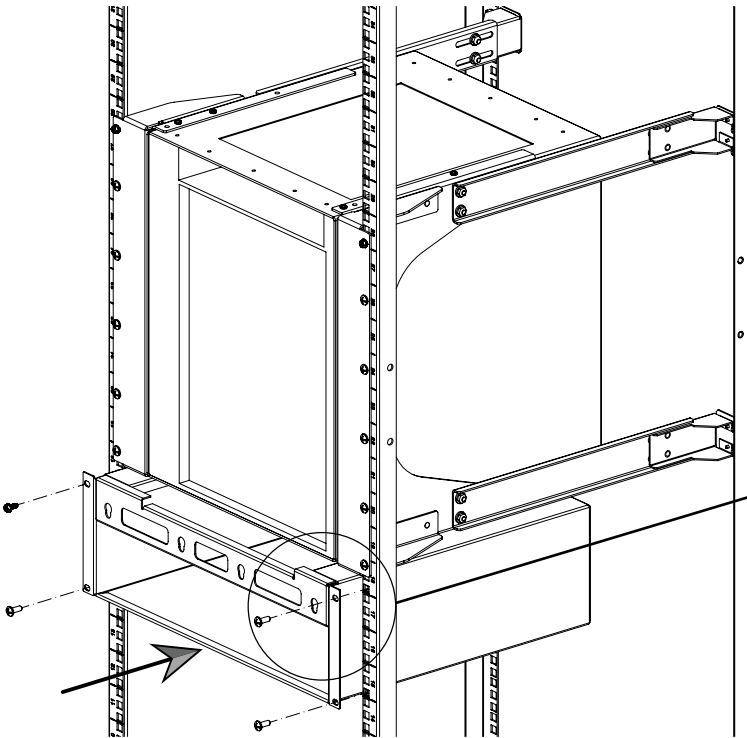

Figure 12
- Inlet Duct is installed directly underneath Chassis (Figures 12 & 13).